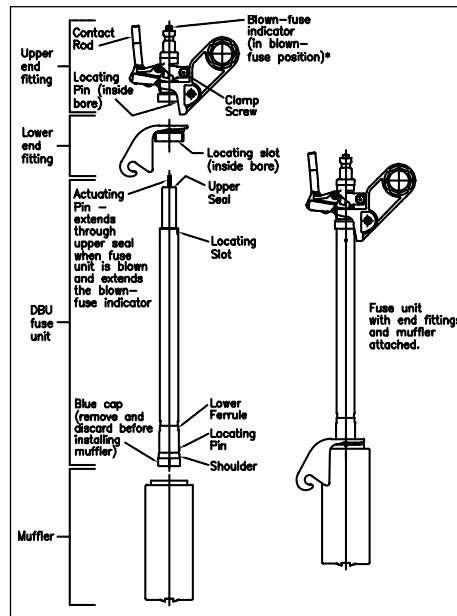

Figure 10: Indoor DBU Fuse Fittings
Attach fuse-unit end fittings (Fig. 10) as follows:
- B. Loosen the upper end fitting clamp screw, and pry the clamp apart slightly using a screwdriver. Slide the upper end fitting off the upper end of the Fuse Unit. Then unscrew and remove the Exhaust Control Device. Slide the lower end fitting off the upper end of the Fuse Unit. (Refer to Figure 10.)